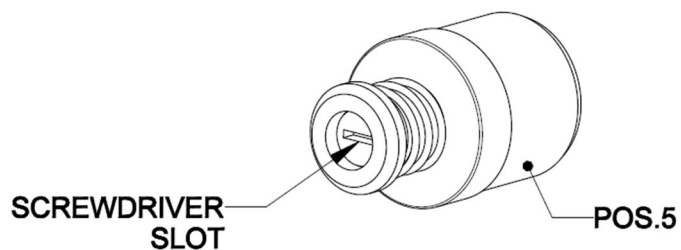

Fig. 3 – Cartridge
8. Install whole unit to the ground using 3/8” (6 places) or ½” anchors (4 places). See Fig.3 for reference. Anchors are not included. This bottle filler is to be mounted on a smooth, flat, finished surface with adequate support structure. Oasis can provide optional anchor assembly that can be delivered together with the unit. For easy access to the filter (optional) place unit at least 120 mm away from the wall.